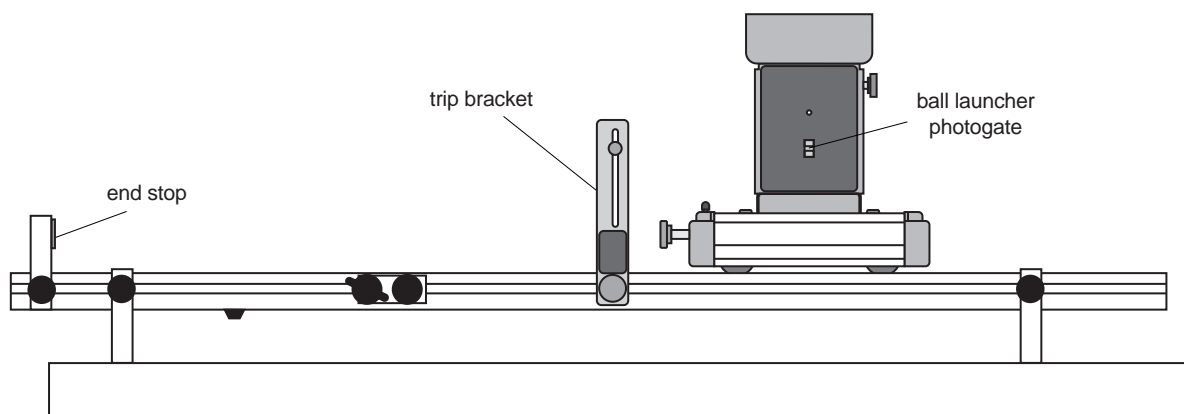

Figure 1.1: Setup for Shoot and Catch
- ① Prior to the beginning of the demonstration, perform the Setup procedure.
- ② With the cart at rest on the track, load the ball and trip the release mechanism with a penny or other opaque object. This proves to the students that the ball is being launched straight up.
- ③ Put the photogate trip bracket near one end of the track, leaving enough room to push the cart up to its maximum speed before it reaches the trip bracket. See Figure 1.1. Load the ball and start the cart from that end of the track by giving the cart a gentle push. The cart will move slowly and the ball will be caught.
- ④ Return the cart to the end of the track. Load the ball and give the cart a stronger push.